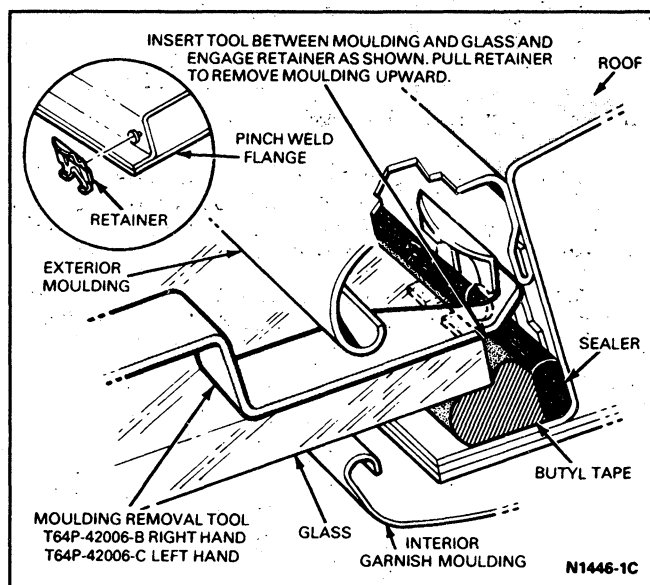

FIG. 1 Windshield Moulding Removal Tool—Typical
2. Remove the windshield exterior mouldings (Figs. 1 through 5).
2. Remove the windshield exterior mouldings (Figs. 1 through 5). Refer to Group 47—Body Shell, Exterior Trim, Frame and Underbody. On vehicles with heated rear windows, disconnect heating wires before proceeding with glass removal.